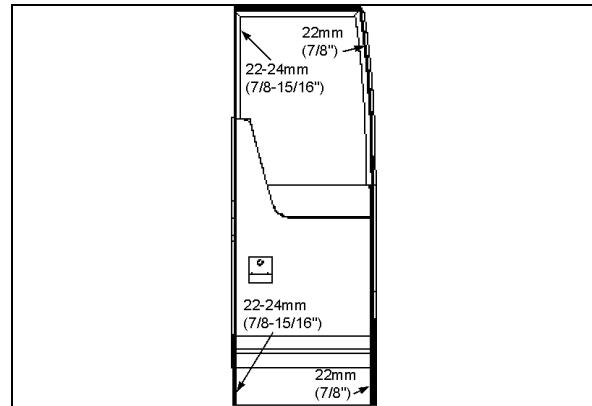

FIGURE 33: SEAL COMPRESSION ADJUSTMENT
- From the outside of vehicle, insert a straight edge in the gap along the door outside perimeter. Measure the distance between the door frame and the door outside surface at the door four corners (refer to Figure 33).